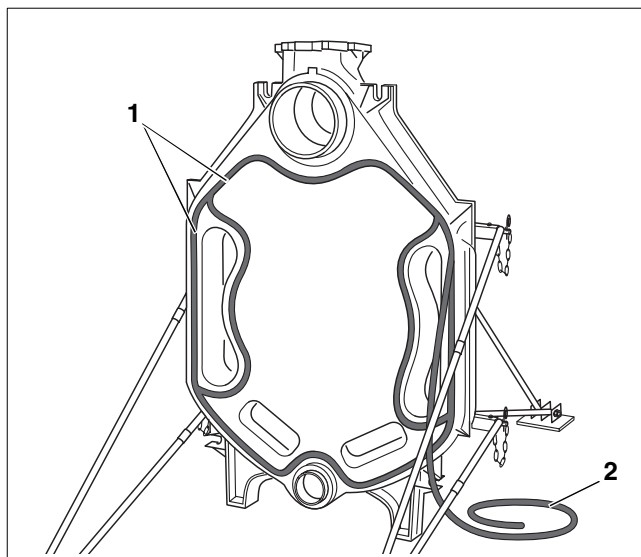

Fig. 13 Fitting sealing rope (KM rope)
- Starting at the top at the point where the nipple port is situated, fit the elastic sealing rope (KM rope: Fig. 13, **ref. 2**) into the grooves provided (Fig. 13, **ref. 1**) in the front face of the rear section and press it gently home. At the joins, allow a 2 cm overlap between the ends of the rope and press the ends hard against each other.